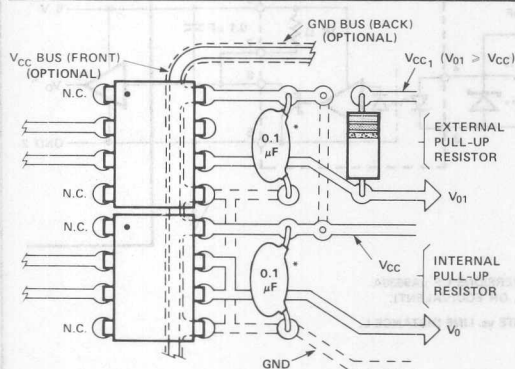

Figure 18. Recommended Printed Circuit Board Layout.
A recommended layout for use with an internal 1000 Ohms resistor or an external pull-up resistor and required  $V_{CC}$  bypass capacitor is given in Figure 18.  $V_{CC1}$  is used with an external pull-up resistor for output voltage levels ( $V_O$ ) greater than or equal to 5 V. As illustrated in Figure 18, an optional  $V_{CC}$  and GND trace can be located between the input and the output leads of the HCPL-2300 to provide additional noise immunity at the compromise of insulation capability ( $V_{I-O}$ ).
1. Bypassing the power supply line is required with a  $0.1\mu\text{F}$  ceramic disc capacitor adjacent to each optocoupler as illustrated in Figure 18. The power supply bus for the optocoupler(s) should be separate from the bus for any active loads, otherwise a larger value of bypass capacitor (up to  $0.1\mu\text{F}$ ) may be needed to suppress regenerative feedback via the power supply.